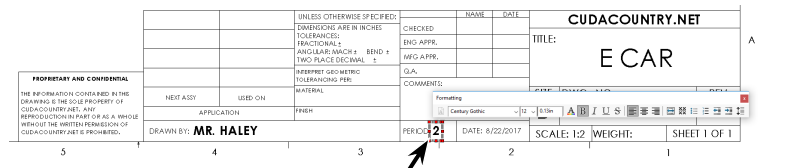

Fig. 19
Step 7. Click just to the right of **PERIOD**:, key-in **your Period number**, **Fig. 19**.